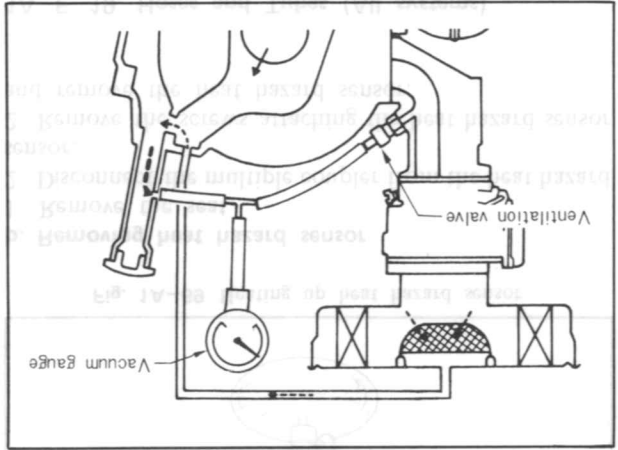

Fig. 1A-65 Checking charcoal canister
3. Attach a vacuum gauge as shown in Fig. 1A-66. Check to see that when the engine speed is raised to 2,500 ~ 3,000 rpm, the vacuum gauge reads under 60 mm-Hg.